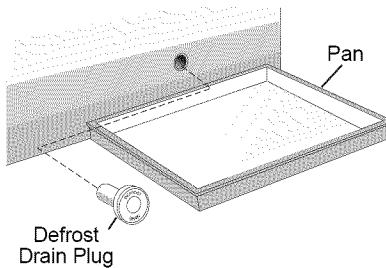
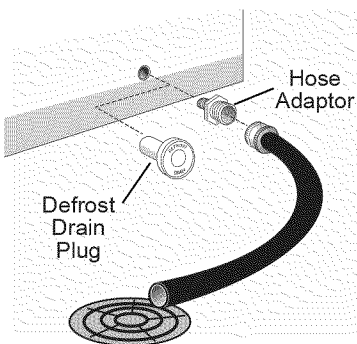

Figure 2
Figure 3
- Place a shallow pan beneath the drain outlet. Pull out the outside drain plug (see figure 2). A ½ inch garden hose adaptor can be used to drain the freezer directly into a floor drain (see figure 3). If your model is not equipped with an adaptor, one can be purchased at most hardware stores.